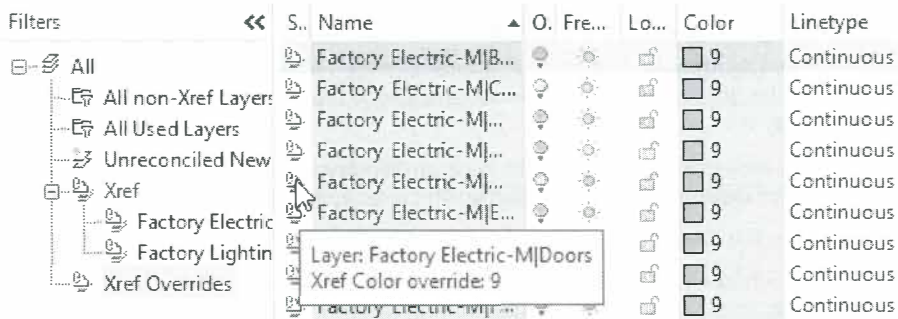

Figure 11–49
8. In the left hand pane, note that the **Xref Overrides** filter is added and that the listed layers have a blue background with their icons changed to . Hover the cursor over the icon to display the Xref override details, as shown in Figure 11–49.
4. In the Layer Properties Manager, note that all of the Factory Lighting-M layers contain **\$0\$** and are no longer gray, as shown in Figure 11–50. Note that all of the Factory Electric-M layers are still displayed in light gray, indicating that they are Xref layers.